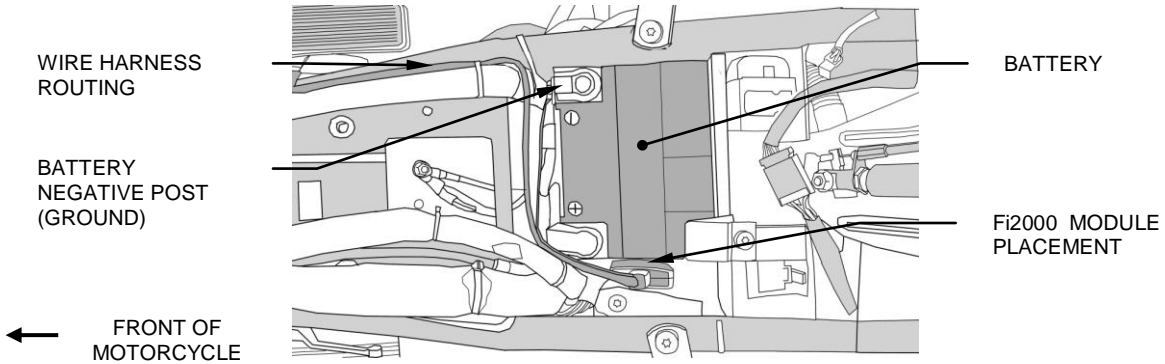
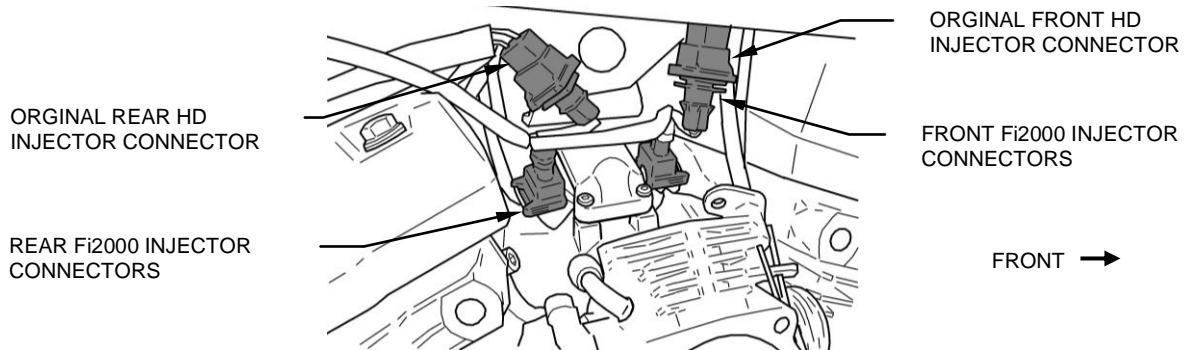

FIGURE 1
FIGURE 2
5. Lay the Fi2000 module in place, but do not attach it to the motorcycle, and run the wiring harness up to the manifold area behind the other wiring of the throttle body (See Figure 1). Attach one pair of the Fi2000 module's injector plugs to the front injector. Take the original HD connector and insert the corresponding Fi2000 connector into it, see Figure 2.
6. Attach the Fi2000 module's remaining injector plug to the rear injector. Take the original HD connector and insert the corresponding Fi2000 connector into it, see Figure 2. Use one of the supplied zip-ties to secure the Fi2000 wire harness to the upper motor mount before it is routed back towards the seat area.
7. Route the BLACK wire from the Fi2000 module to the negative post of the battery as shown in Figure 1.
10. Remove the backing from the Velcro and attach the Fi2000 next to the battery as shown in Figure 1.